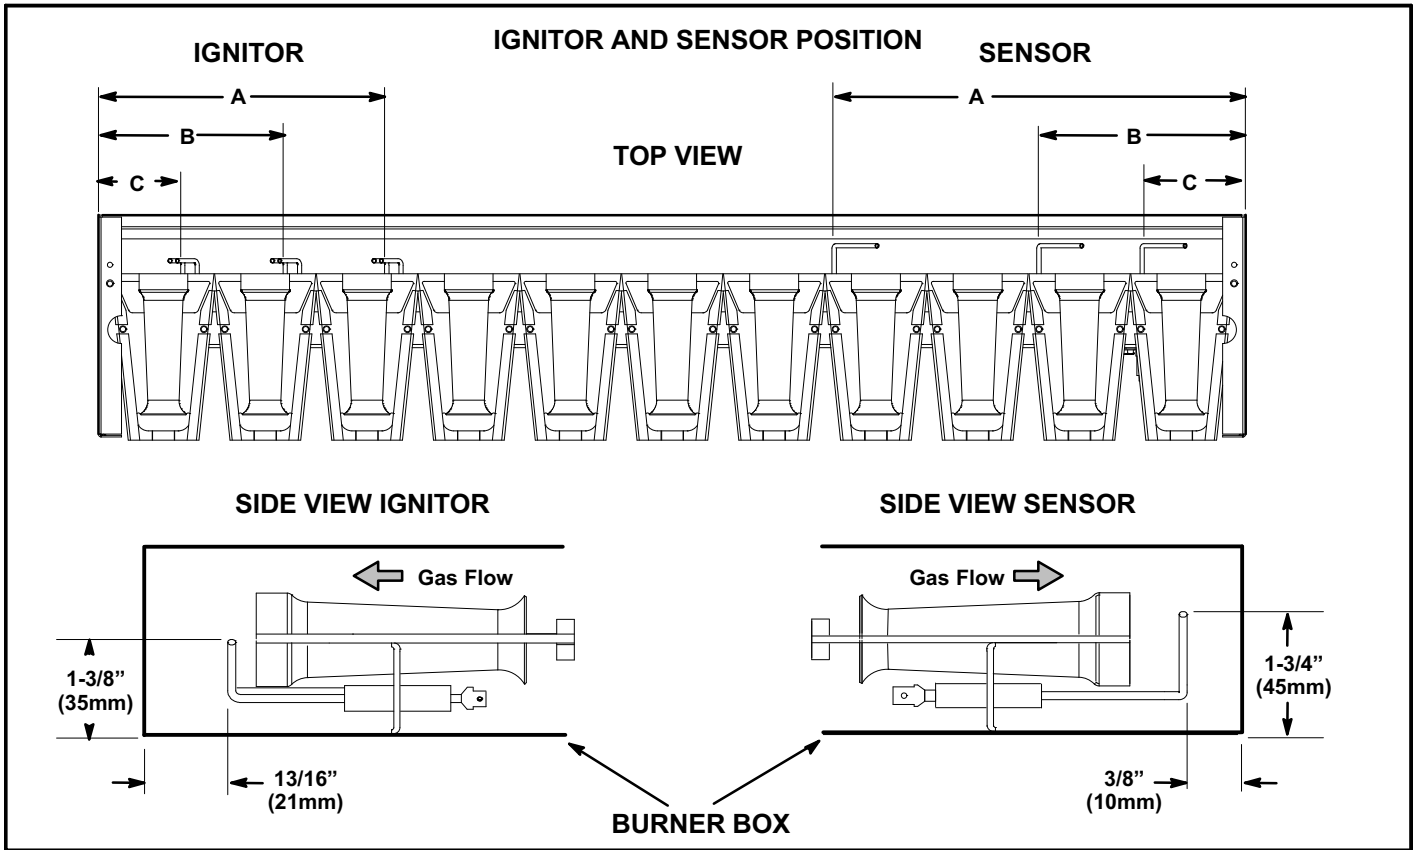
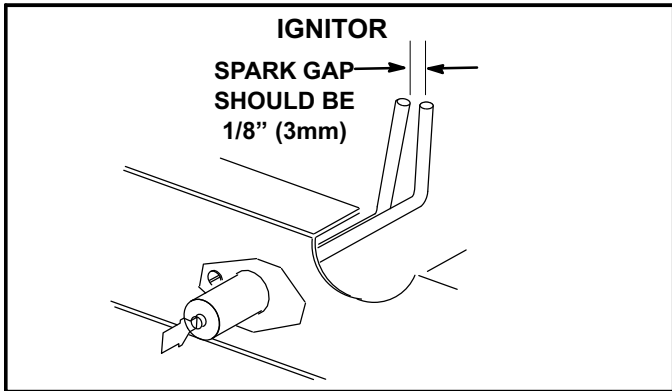

FIGURE 26
FIGURE 27
- Locate the ignitor under the left burner. See figure 26 and table 15 for 120 and 240 units. Use appropriately sized twist drills or feeler gauges to check the spark gap as shown in figure 27.